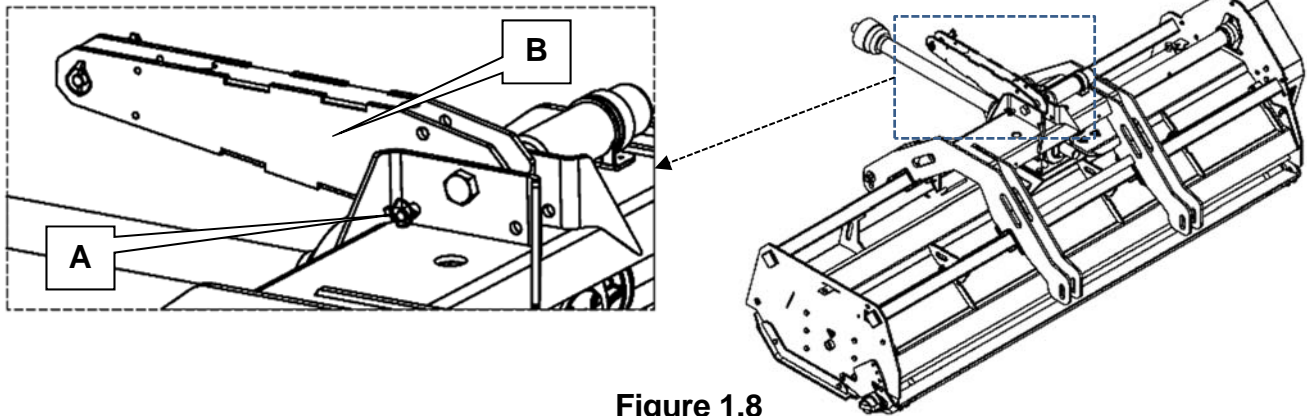

Figure 1.8
1.5.1.2 The machine is normally supplied configured for rear mount, see Figure 1.8.
1.5.1.3 Remove lynch pin, Figure 1.8 (A) and rotate Top link arm, Figure 1.8 (B) to the rear and refit lynch pin.